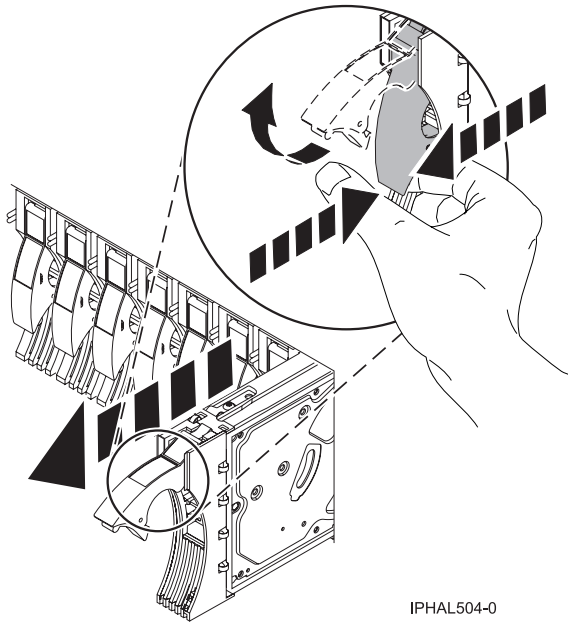

Figure 46. Removing a disk drive from a model
12. Unlock the disk drive handle by squeezing it and pulling it out toward you as shown in Figure 46 on page 64.